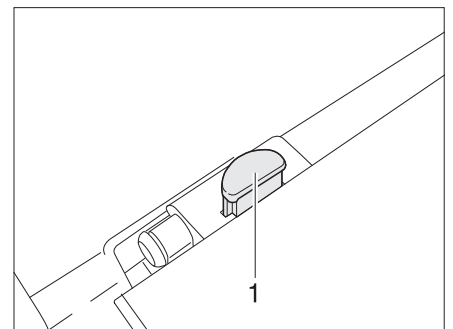

Fig. 34 Table top locking mechanism
- Press the release knob (Fig. 34,1) at the locking mechanism of the table-top.